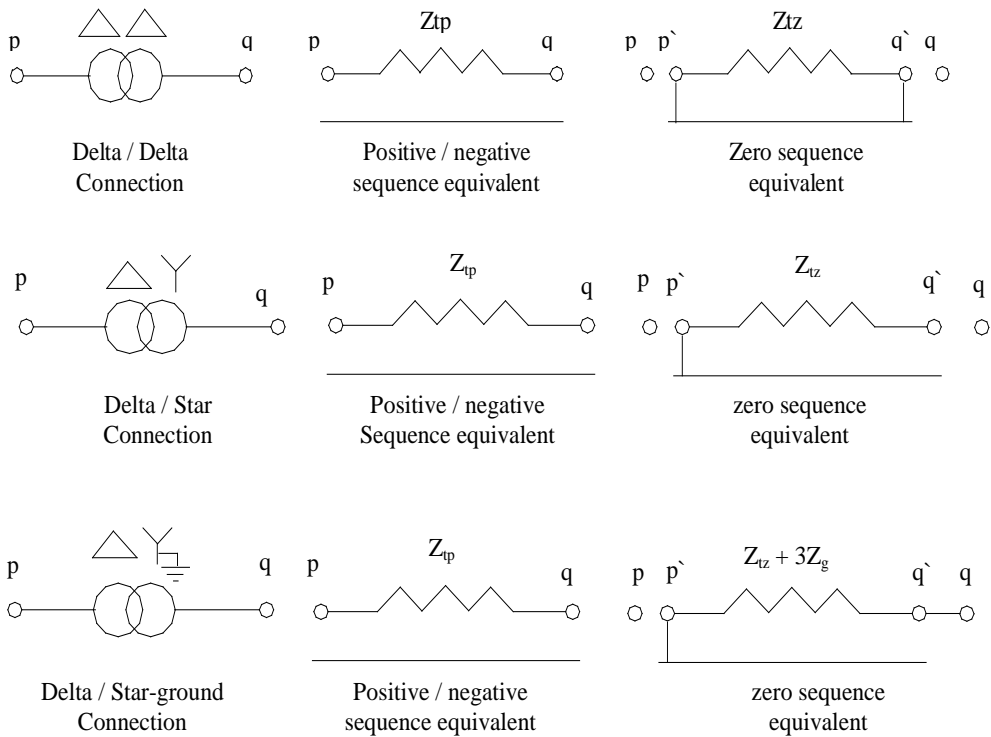

Figure 3.4 - Positive, negative and zero sequence representation of two winding transformer.
- If the transformer is grounded through any impedance, 3 times the ground impedance value should be added to the zero sequence impedance. Figures 3.4, 3.5 and 3.6 show the transformer positive and zero sequence network connections. If the entries for zero sequence values are 0.0, then zero sequence values are computed from the positive sequence values using the multiplication factors given above.